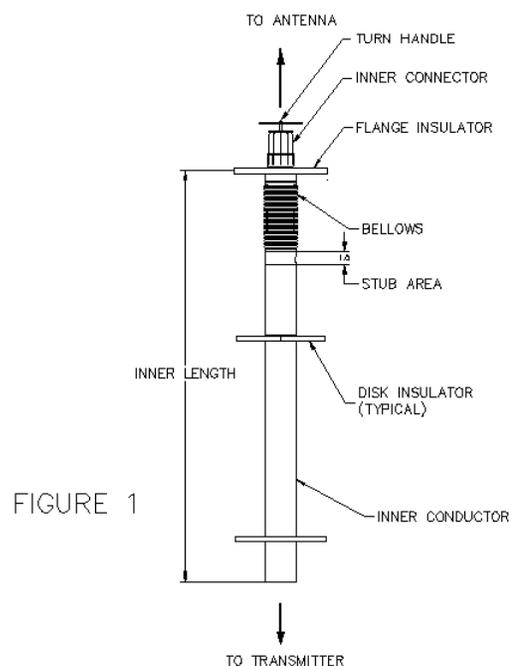

FIGURE 1
- 2 Subtract 1.16 inches (for inner cutback) from the outer conductor measured length (flange-to-flange) in Step 1. This is the required length of the inner conductor from the midpoint of the flange insulator to the end of the inner conductor tube. See Figure 1.
- 1 Remove item 1, "turn handle", and items 2 (#10-32 x 4" long socket head cap screws) and item 3 (inner conductor).
- 2 Carefully grip the inner conductor tube with pipe or strap wrench taking care not to crush the tube by clamping only over the Stub area (see Figure 1). Loosen item 4 with 3/8" hex key and breaker bar provided.
- 3 Reassemble the bellows on the other end of the inner conductor tube. Take care not to gouge the inner conductor tube at the stub if using a pipe wrench. This area must be cleaned up with garnet cloth if gouged. The assembly must be secured by tightening item 4 to 20-25 lb-ft (240-300 lb-in).
- 4 Re-attach item 3 (inner connector) in reverse order of Step 1 to 4.5 to 5.5 lb-ft. or 55 to 65 lb-in.